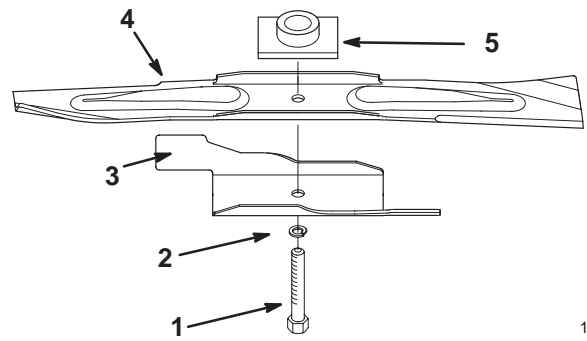

Figure 21
Grasp the end of the blade using a rag or thickly padded glove. Remove the blade bolt, the lock washer, the accelerator, and the blade (Fig. 21).
1. Install the blade onto the spindle and the blade driver with the curved blade tips pointing toward the lawn mower deck and the blade driver nesting in the recess of the blade (Fig. 21).
2. Install the accelerator, the lock washer, and the blade bolt (Fig. 21).